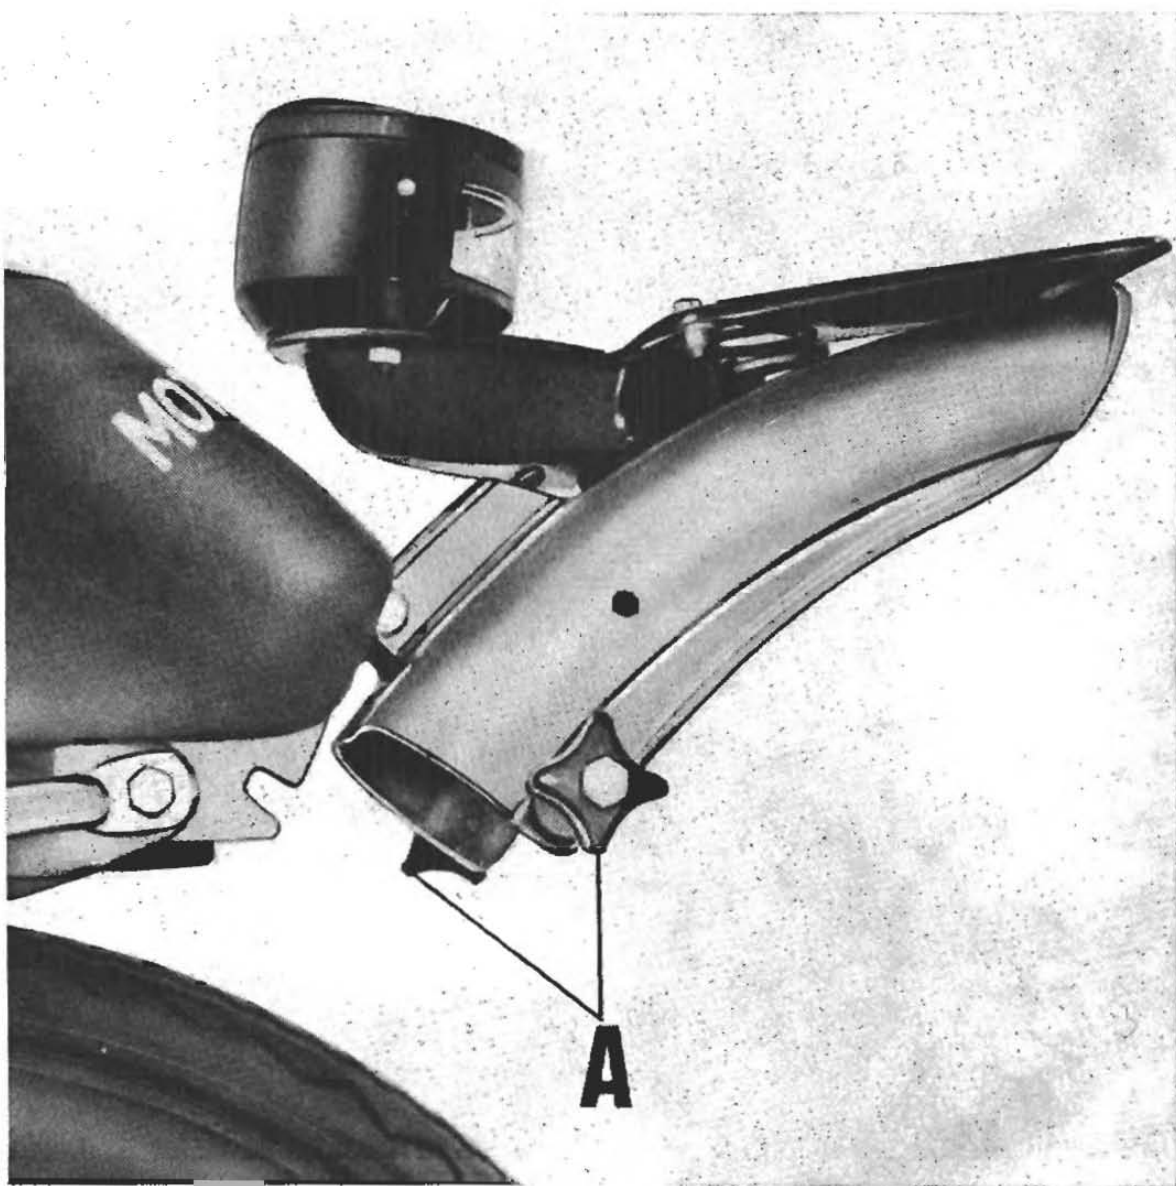

Fig. 34
- Loosen both knobs (A in fig. 34) and lift up the rear mudguard end.